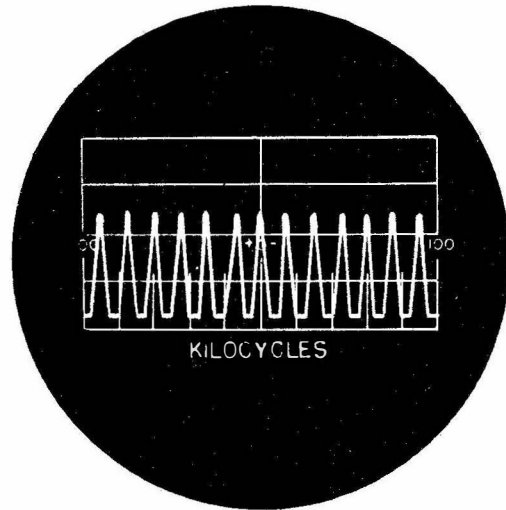

Figure 2. Typical Picture of a Signal Shown in Visible Single-Signal Operation (Overmodulated Tone Signal)
c. **VISIBLE SINGLE-SIGNAL.** Any one signal, within 100KC of the frequency to which the receiver is tuned, can be tuned in on the PANADAPTOR and shown on the Panoramic screen. Refer to Figure 2.